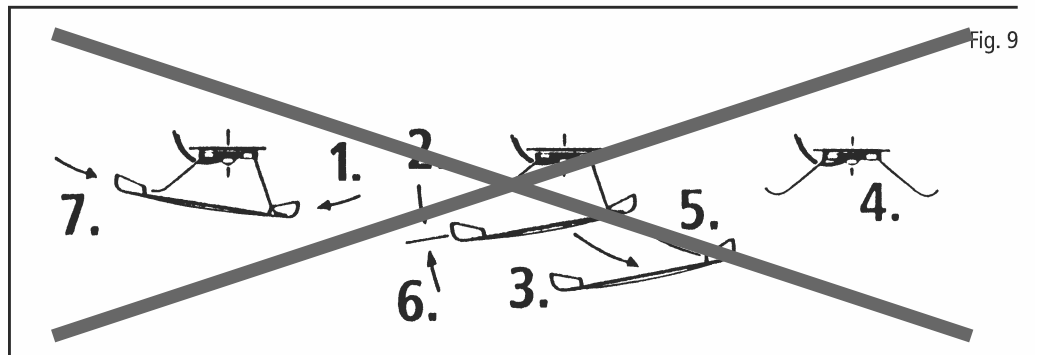

Fig. 5
2. Lubrication: Apply **tiny oil drops** to spots marked in fig. 5. Prior to lubrication dismantle locomotive (fig. 3). We recommend using item no. **10906, Roco oiler**. For lubrication the gear-parts (e.g. cog-wheels, worm) we would recommend our Roco **special grease** (item no. **10905**).